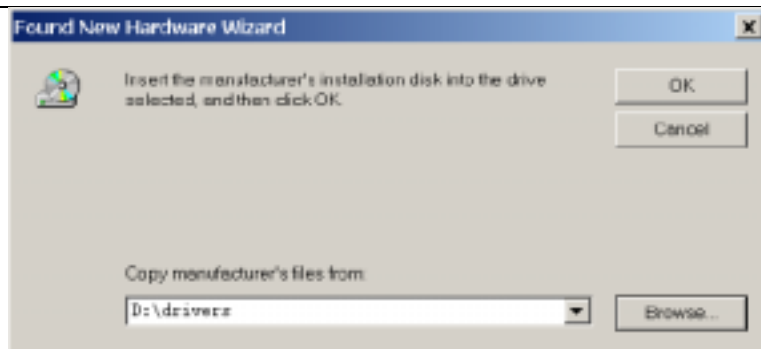

Figure A-6
6. Click on Browse and locate the file WTUSB510.INF in the installation CD, or in the folder where you have download the file into, as shown in Figure A-6.